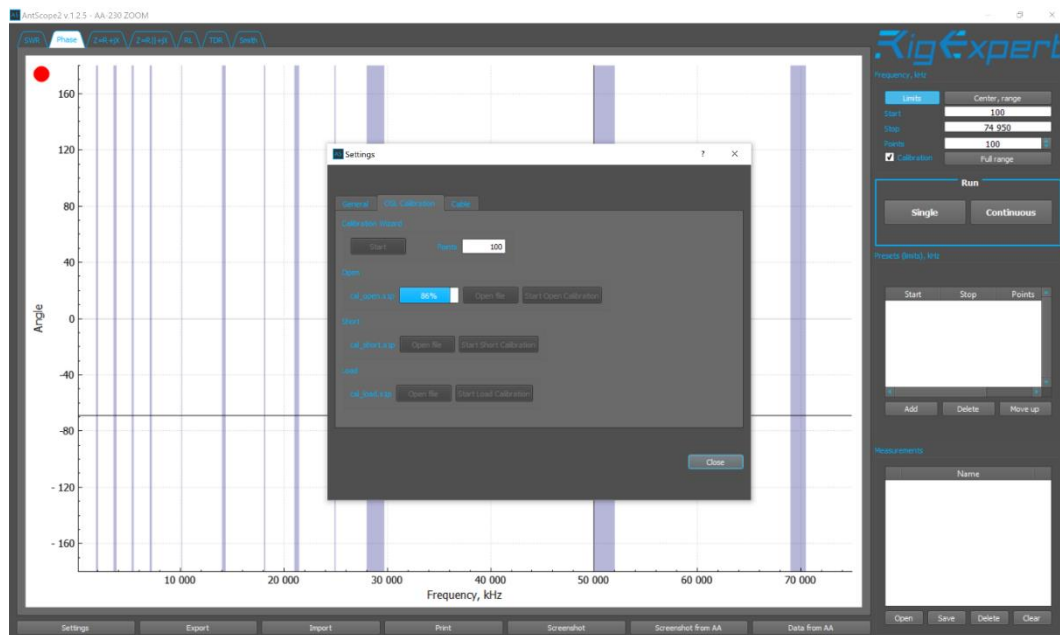

Figure 11-61: OSL Calibration – In progress
10. The calibration begins as shown in Figure 11-61. Wait for the calibration to finish.